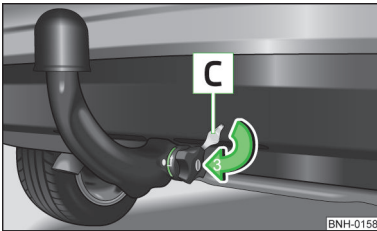

Fig. 9
- > Fit the cap on the  handwheel lock in the direction of the arrow 3 » Fig. 9.